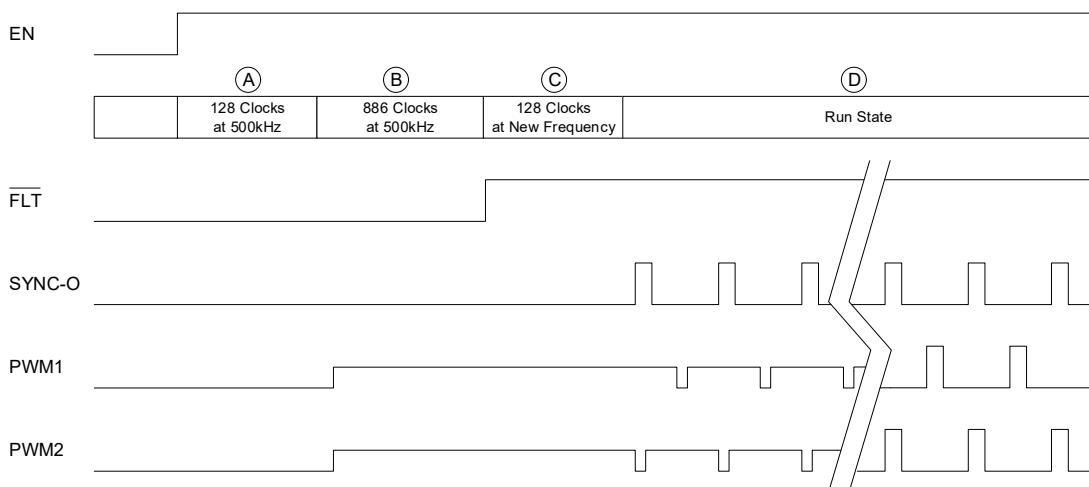
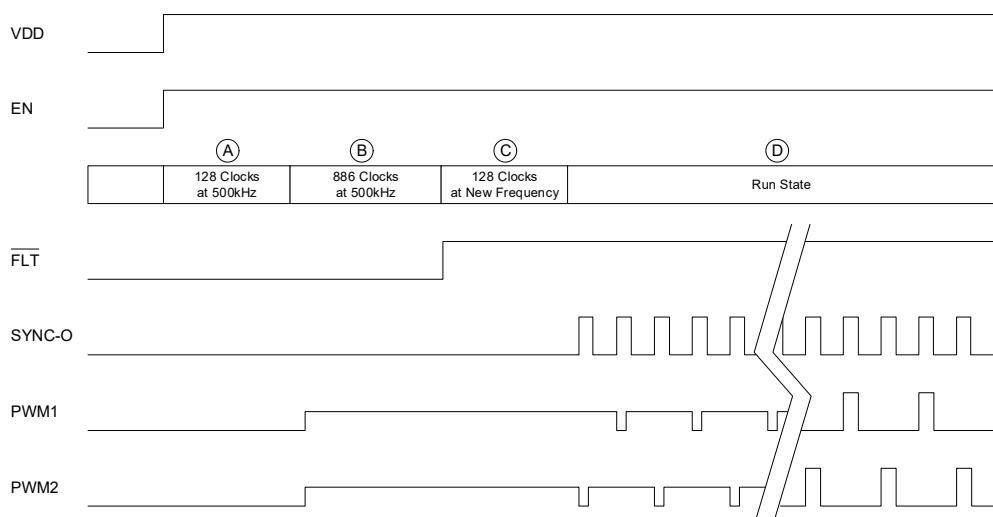

Figure 52. Start-Up Timing Diagram ($R_{SYNC-O} = OPEN$)
Figure 53. Start-Up Timing Diagram ($R_{SYNC-O} = 100k\Omega$)
When the ISL73847M first powers up, it goes through several states before boot refresh and soft-start. After VDD has crossed the rising UVLO threshold, the oscillator waits for 128 clock cycles at 500kHz before allowing the digital core to enter its configuration state. The configuration state lasts 886 clock cycles at 500 kHz. When the digital core completes its configuration, it signals the oscillator to switch to the frequency set by the FS pin or SYNC-I. After an additional 128 clock cycles at the new frequency, boot refresh pulses commence, followed by soft-start. Figure 52 and Figure 53 illustrate the start-up sequence.
During states A and C in Figure 52 and Figure 53, the oscillator blanks the clock signal to the digital core. Therefore, the oscillator has time to stabilize its frequency before entering the configuration state (B) or run state (D).